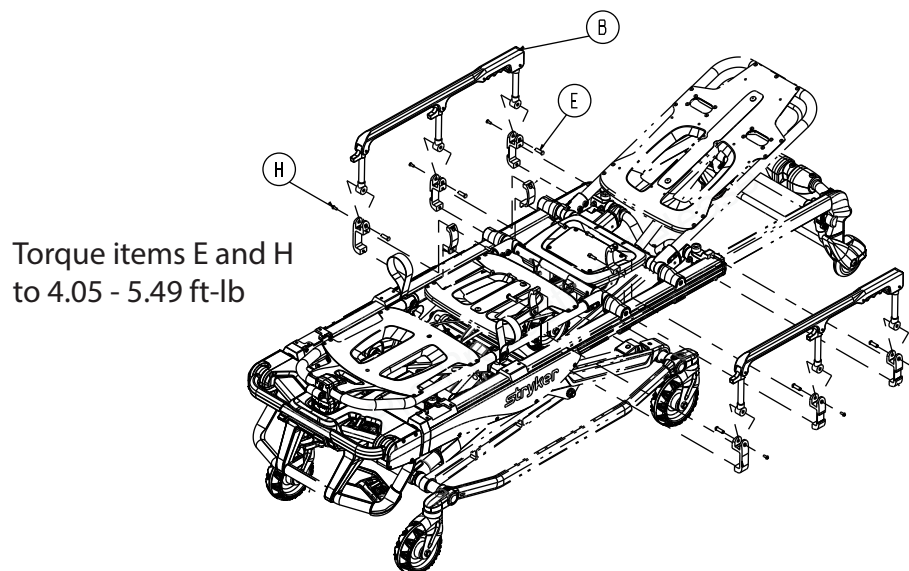

Figure 32 – Standard siderail components
5. Using a T25 Torx driver and a 3/16" hex driver, remove the three button head cap screws (H) and siderail nuts (E) that secure the siderail assembly to the cot (Figure 32). Save the screws and nuts.
6. Remove and discard the siderail (B) (Figure 32).